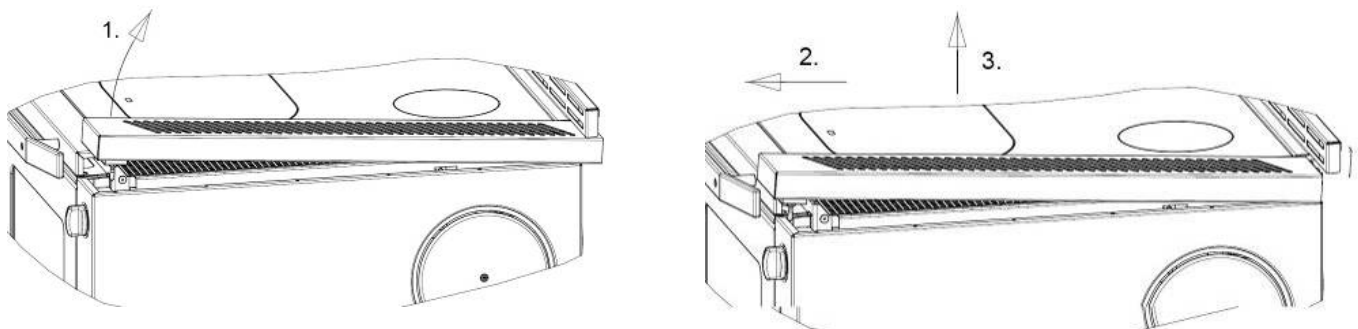

Fig. 5
1. Stainless steel grating, lifting (Figure 5)